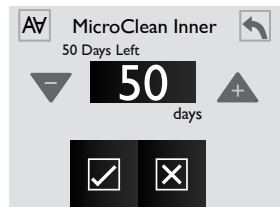

Figure 12.6f
1. From the “Water Care” Menu you can to set the MicroClean Inner timer, Figure 12.6f.